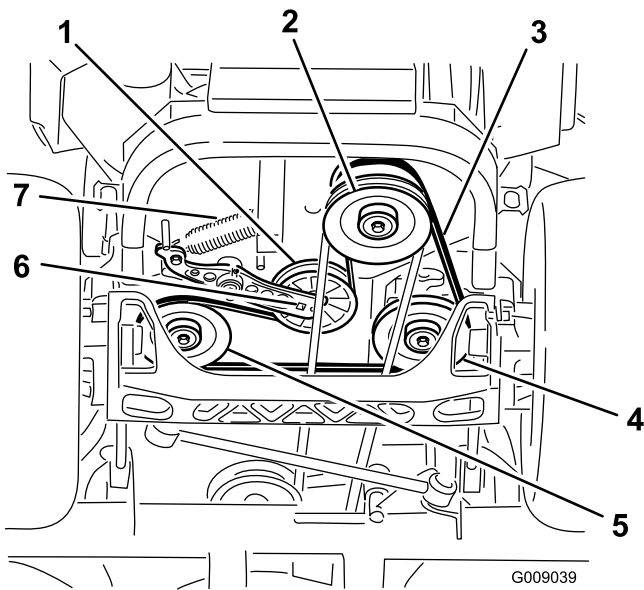

Figure 73
4. Raise the machine and support it with jack stands (Figure 73).
5. Use a ratchet in the square hole in the idler arm to remove the idler spring (Figure 73).
6. Unhook the idler spring from the frame (Figure 73).
9. Using a ratchet in the square hole in the idler arm, install the idler spring to the frame (Figure 73).